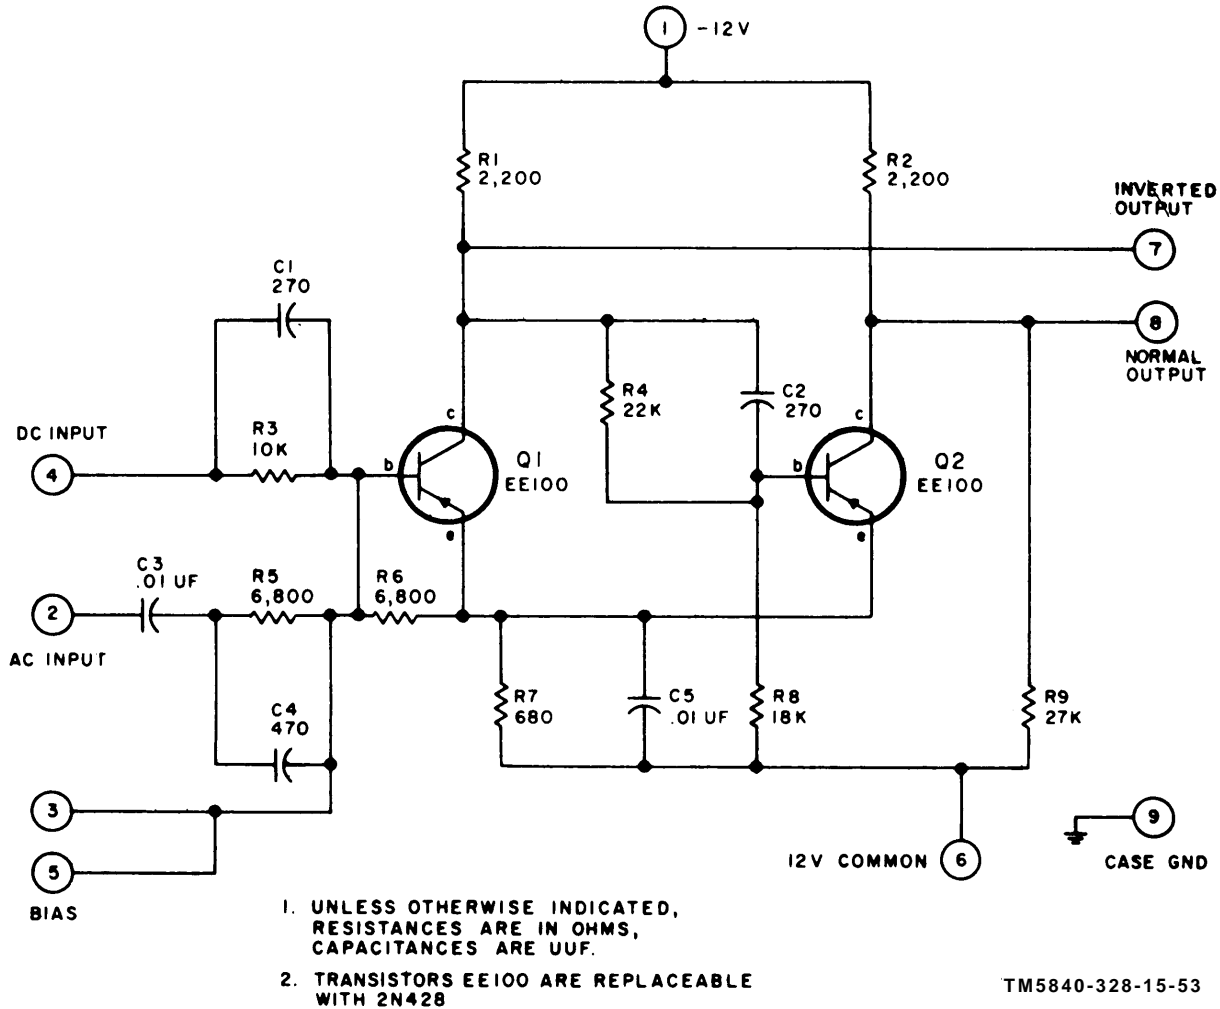

Figure 5-4. Squaring amplifier 21, schematic diagram.
a. *Squaring Amplifier Z1.* The function of squaring amplifier Z1 (fig. 5-4) is to translate the asymmetric synchronized (sync) pulses developed by the receiver-transmitter power converter (block 700) into well defined, sharply rising pulses with uniform amplitude and a rectangular-shaped waveform. To accomplish this, a modified Schmitt trigger circuit is employed. In operation, no output signal occurs until a positive-going pulse is applied to the input. When the input signal exceeds a predetermined threshold level (-2.5 volts dc), input transistor Q1 switches abruptly from the conductive to the nonconductive state. With the voltage at the collector of Q1 at the nonconductive level, the bias on the base of output transistor Q2 is shifted in the negative direction, causing Q2 to become conductive. As a result, the normally negative polarization of the collector shifts to a zero potential. This condition prevails until